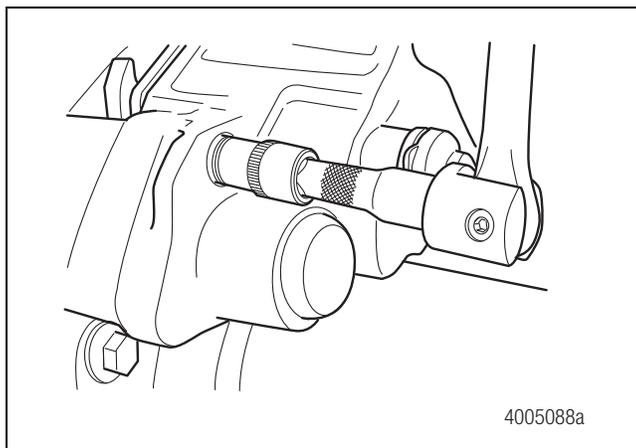

Figure 5.59
2. Support the bridge in position. Install the four new bridge bolts. Do not reuse the bolts that were removed. Tighten the bolts to the torque specified in Section 8. Figure 5.59. If necessary, install the caliper assembly onto the axle. Refer to the procedure in this section.